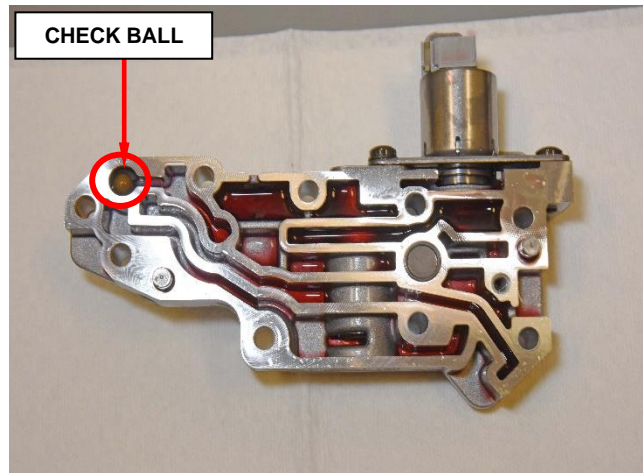

Figure 5 – Lower Valve Body
13. Confirm presence of a second Check Ball in the Lower Valve Body cavity (Figure 5).
NOTE: Do not remove this check ball from the lower valve body, keep the lower valve body facing upward to avoid the check ball from falling out of position (Figure 5).